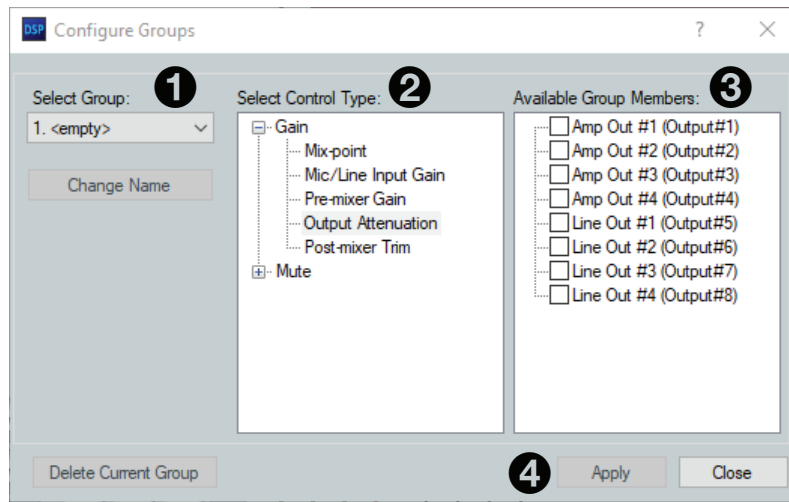

Figure 71. Configure Groups Dialog Box
2. From the **Select Group** drop-down list, select a group slot to configure (see figure 71, **1**).